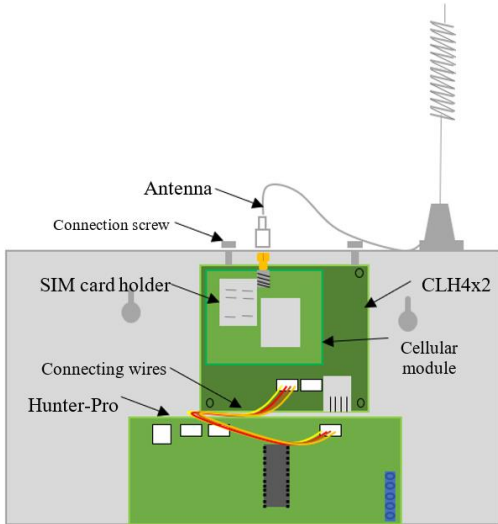

Figure 2: CLH4x2 installation inside the alarm system's control box
- Assemble to the system's box inner top wall and secure with the two screws. See Figure 2.
- Connect the CLH4x2 to the Hunter-Pro system, to the Serial connector using the connecting wires. See Figure 2.